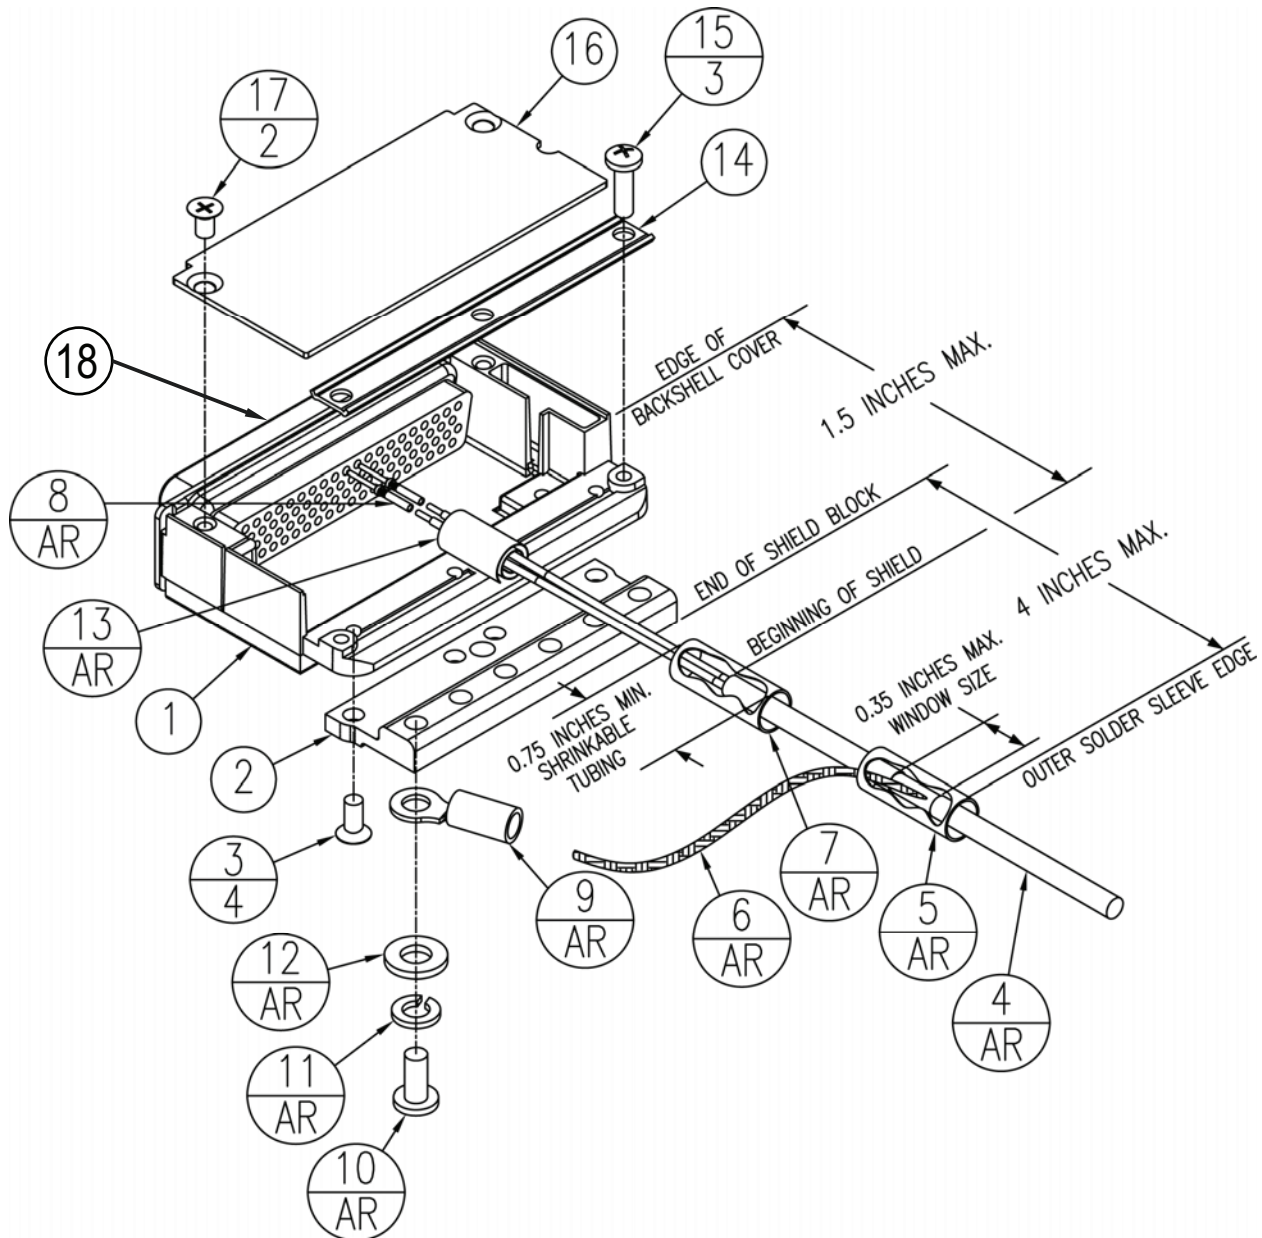

Figure B-1 Shield Block Installation (78 pin example)
Tables B-1 & B-2 list parts needed to install a Shield Block in a D-Sub connector. The Item Numbers listed in Tables B-1 & B-2 coincide with the Item Numbers in Figure B-1.
Table B-2 Parts not supplied for a Shield Block Installation (Figure B-1)
In Figure B-1, "AR" denotes quantity "As Required" for the particular installation.
For the following steps please refer to Figure B-1.
1. Attach the Shield Block(s) (Item 2) to the backshell (Item 1) by inserting the flathead screws (Item 3) through the holes on the Shield Block and threading into the tapped holes on the backshell (Item 1) (see Figure B-1).
7. Cut the Flat Braid (Item 6) to a length that, with the addition of a ring terminal, will reach one of the tapped holes of the Shield Block (Item 2) (Figure B-1). An appropriate amount of excess length without looping should be given to the Flat Braid (Item 6) to allow it to freely move with the wire bundle.